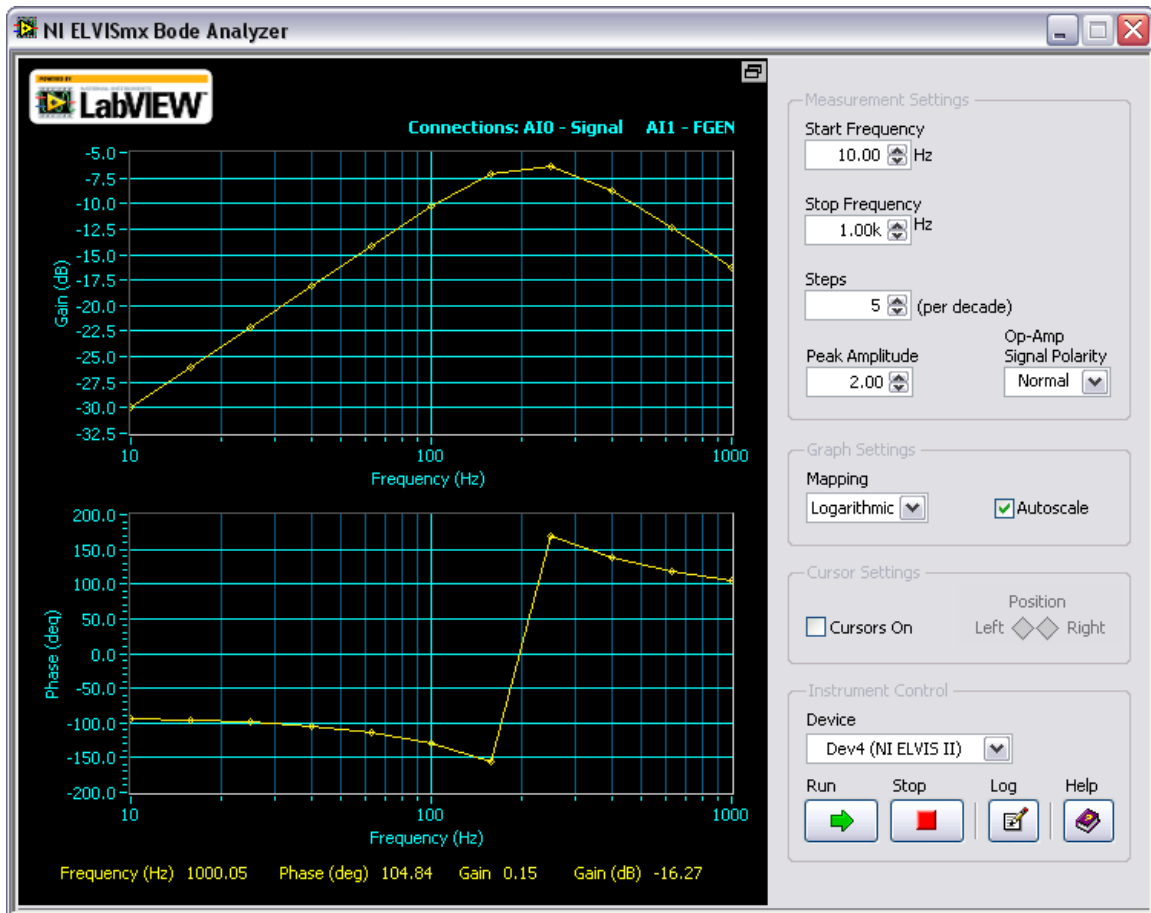

Figure E4-2. Frequency Response Verification of Real-World Circuitry
4. Run the sweep from **10 Hz to 1 KHz**. The results should be similar to those in Figure E4-2.